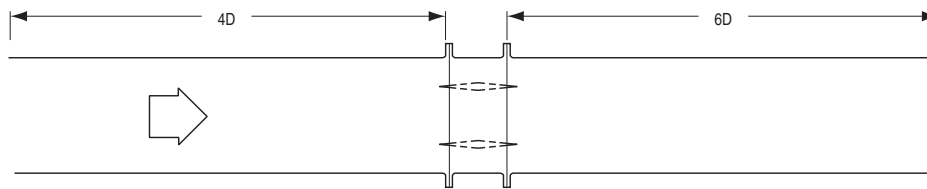
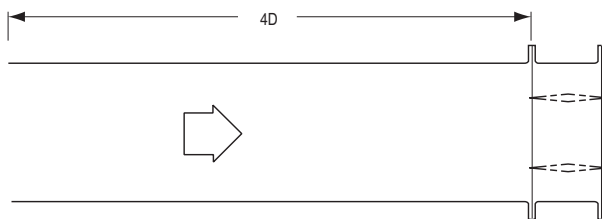
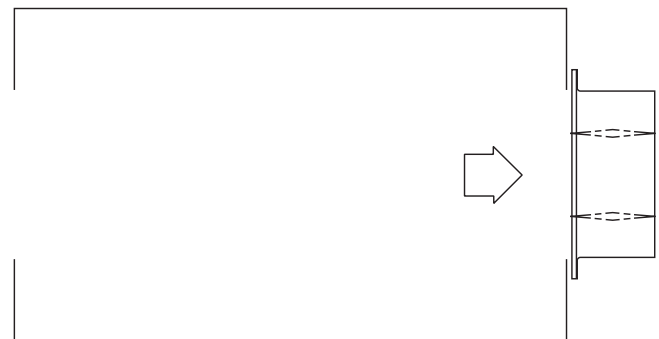

FIG. 5.3
FIG. 5.2
FIG. 5.5
There are three common test setups to test pressure drop referenced in AMCA 500-D: Fig. 5.2, Fig. 5.3 and Fig. 5.5 (see below). All Nailor control dampers are tested using the configuration shown below in Fig. 5.3, illustrating a fully ducted damper. All Nailor backdraft dampers are tested using the configuration shown in Fig. 5.5, illustrating a plenum mounted damper. Fig. 5.3 yields the lowest pressure drop of the three test configurations due to minimized entrance and exit losses of the upstream and downstream straight duct runs. Fig. 5.5 has the highest pressure drop due to extremely high entrance and exit losses due to the sudden changes of area in the system.
Tested per AMCA standard 500-D, Fig. 5.3.
Tested per AMCA standard 500-D, Fig. 5.5.
* Leakage information is based upon a pressure differential of 1" w.g. tested per AMCA standard 500-D, Fig. 5.5.